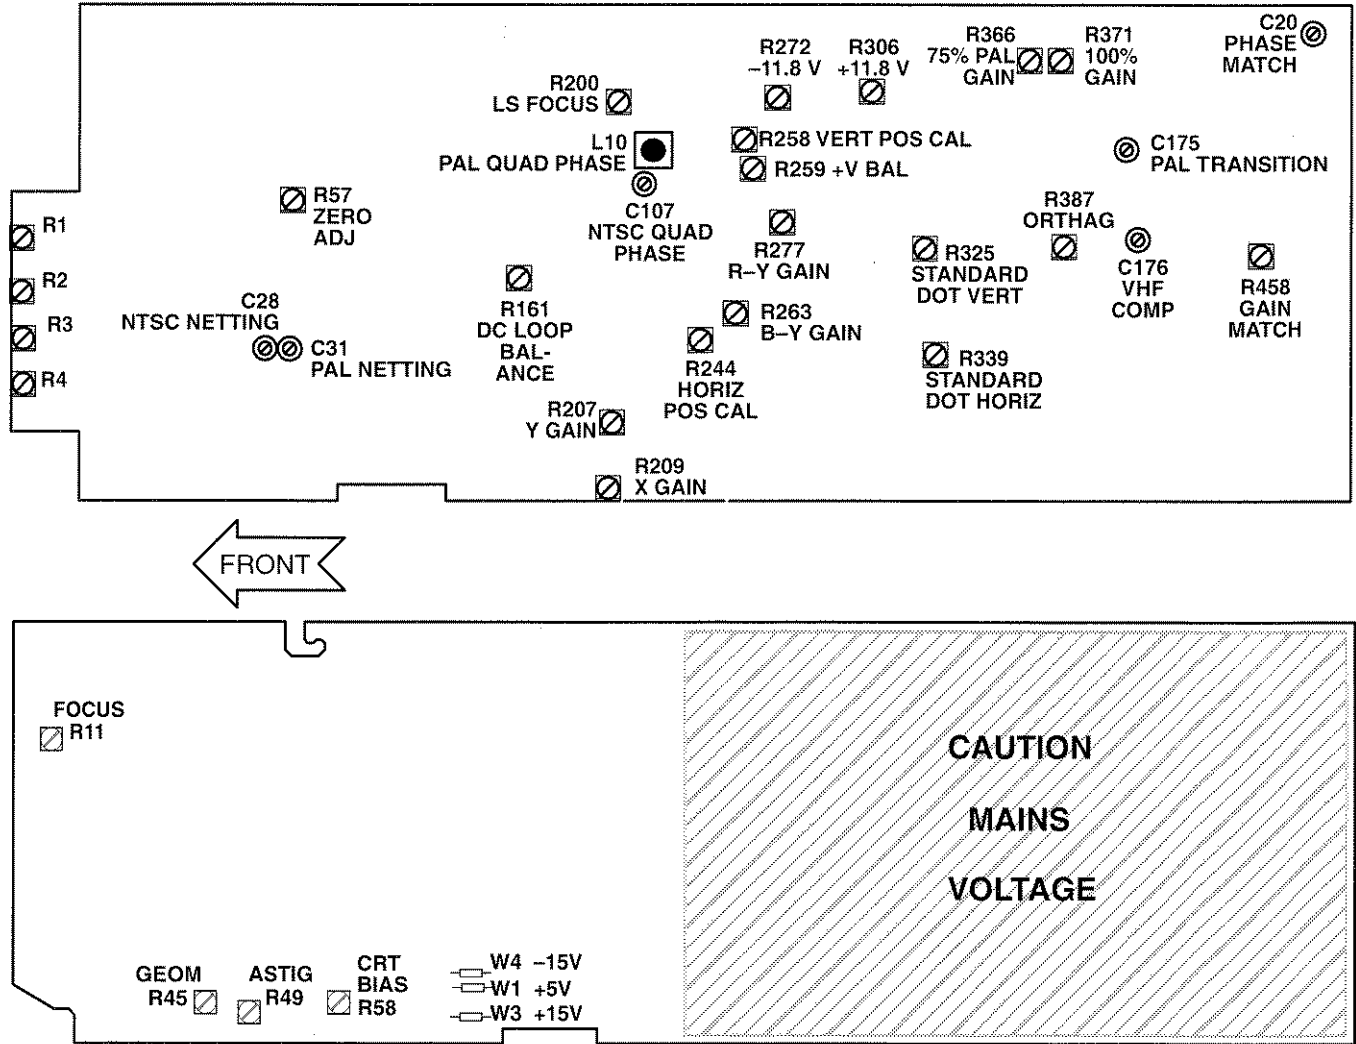

Figure 5-13: Adjustment and test point locations for the 1725 Vectorscope
Figure 5-13 shows the locations of the adjustments and test points used in this procedure.
Refer to Figure 5-13 for adjustment locations.
- a. Connect the voltmeter ground lead to one of the rear-panel ground lugs and the active lead to the -11.8 V test point (Emitter of U164). See Figure 5-13.
- c. Connect the voltmeter active lead to the $+11.8$ V test point (Emitter of U172). See Figure 5-13.